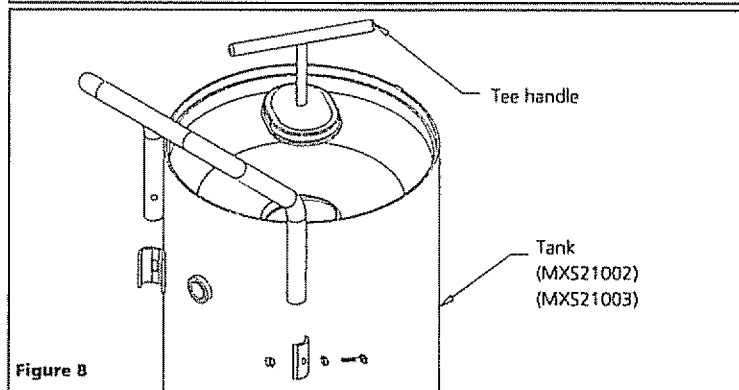
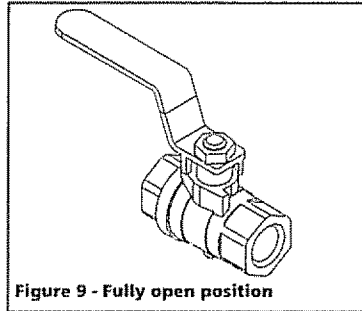

Figure 8
Figure 9 - Fully open position
4. While pulling up on the tee handle (see Figure 8), fully open the blue handle ball valve (see Figure 9). Pressurized air will fill the tank and filter.